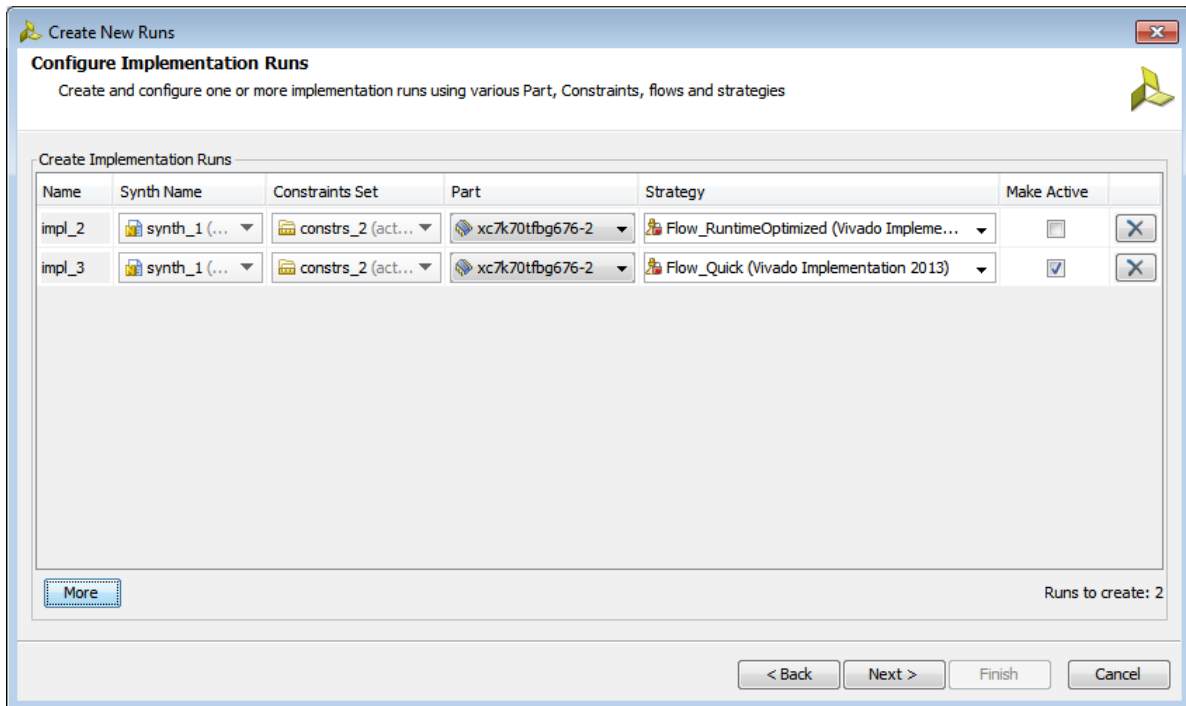

Figure 23: Configure Implementation Runs
6. **Click** the **Make Active** checkbox for `impl_3`, as seen in Figure 23, to make it the active run.